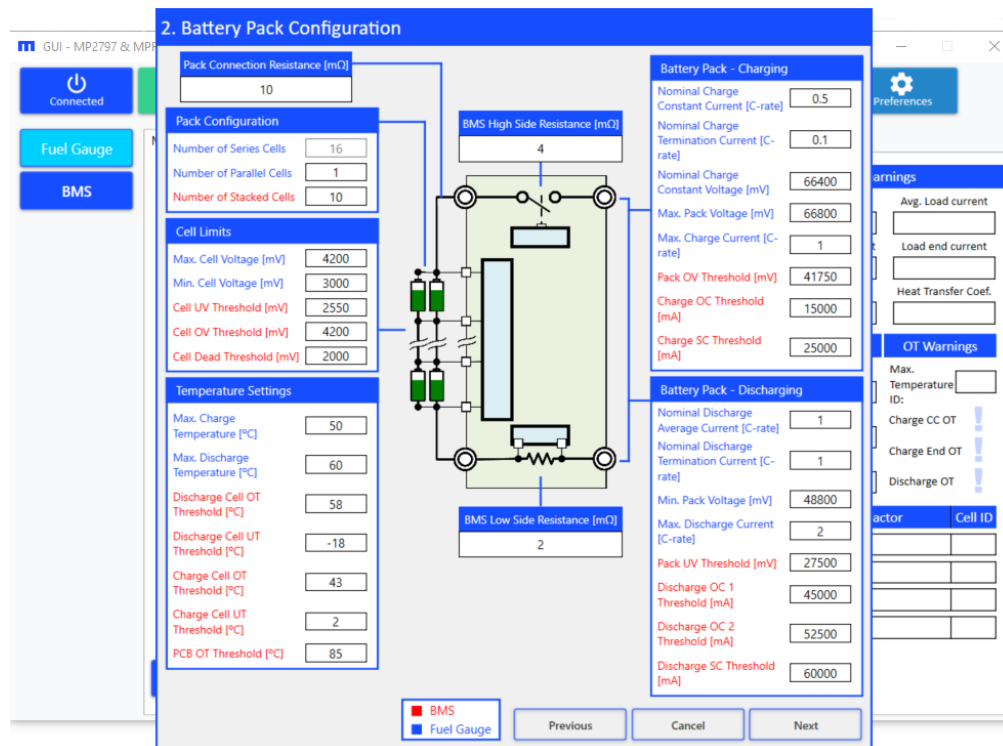

Figure 37: Configuration Wizard 2 – Battery Pack Configuration
6. Use the Battery Pack Configuration window to select the most relevant parameters for the fuel gauge (denoted in blue) and BMS protection (denoted in red) (see Figure 37 on page 30).